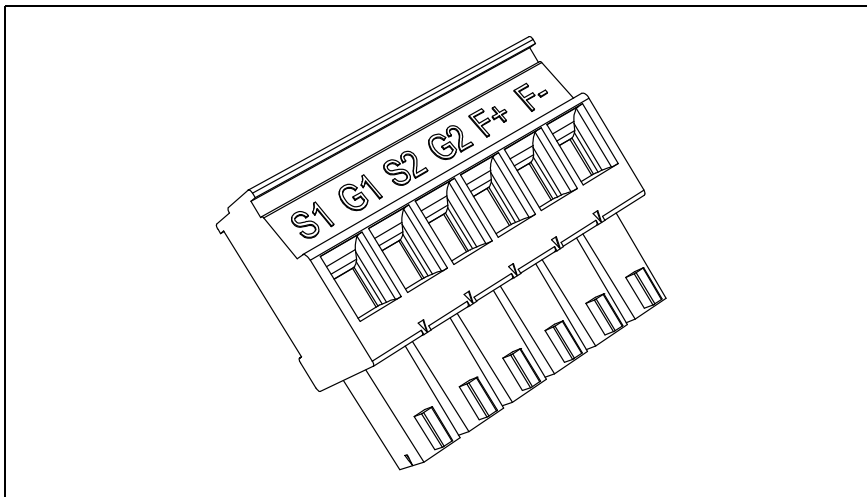

Figure 6. STO connector.
- STO terminal connector (six pins black connector, see Figure 6)